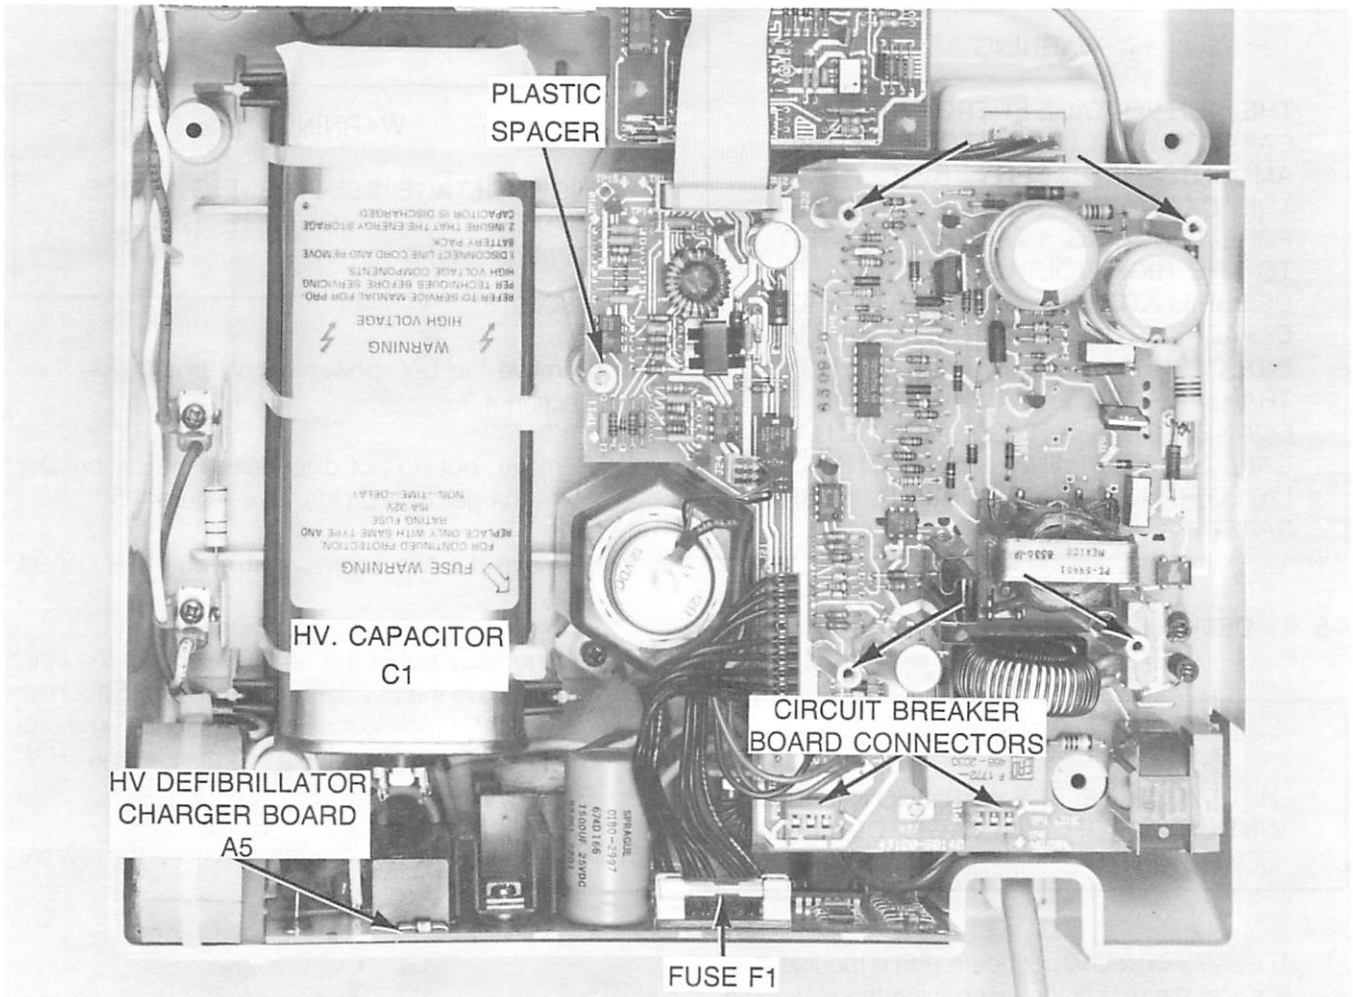

Figure 4-4. Low Voltage Power Supply Board Removal.
6. Compress the latch on the plastic spacer (Figure 4-4.) and lift the board until it clears the latch. Place a finger under the board at that point and near the circuit breaker connections and lift the board out.